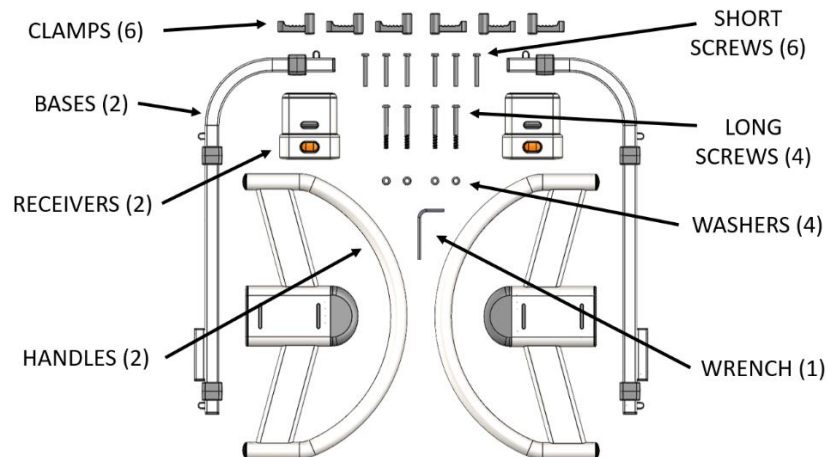

FIGURE 2
1. Remove all components from the box and verify all parts are included as shown in Figure 2.